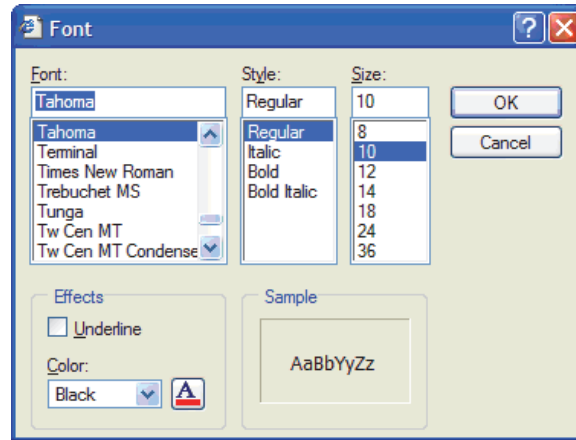

Figure 4-9. Font Dialog Box
Click the **Font** button (A) to change the font used in the procedure. This will bring up the font dialog box shown in Figure 4-9.